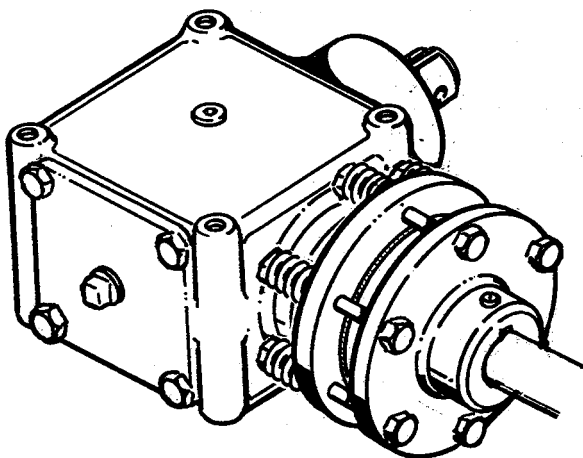
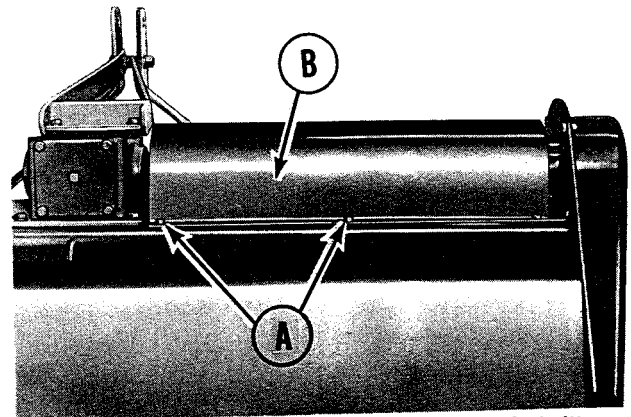

Figure 7. Tiller bevel gear box and protective slip clutch as seen from behind tiller.
Figure 8. Right side of tiller as seen from behind tiller.
See figure 7: The slip clutch may require adjustment if it slips enough when tilling to cause it to get too hot to touch or whenever new linings are installed. It must be adjusted so it will drive the tiller during normal operation, yet slip when ever the tiller tines strike hard object. The slip clutch protects both the tiller drive and the power take off from shock loads which may cause damage. **DO NOT OVERTIGHTEN THE SLIP CLUTCH.** Have your dealer adjust it for you to proceed as follows:
1. See figure 8. Remove the 6 capscrews (A) and the protective cover (B) from the rotary tiller.
2. See figure 7. While holding the bolts (A), tighten the six locknuts (B) by turning them clockwise until the springs (C) are fully compressed. You should be able to tell this by observing the springs and also noting that the nuts will start to turn harder. **CAUTION: TIGHTEN ONLY UNTIL THE SPRINGS ARE COMPRESSED. DO NOT OVER TIGHTEN.**
3. Hold the capscrews (A) with a wrench and loosen each of the six locknuts (B) 1/2 turn by rotating them counter-clockwise.
4. See figure 8. Install the cover (B) and six capscrews (A) removed in step 1.
Check Lubricant Level: See figure 7. Remove plug (D). Oil should be level with the threads on the bottom of the plug hole when the tiller is setting level. If lubricant is required, add SAE 90 transmission oil. Plug (E) can be removed for adding oil.